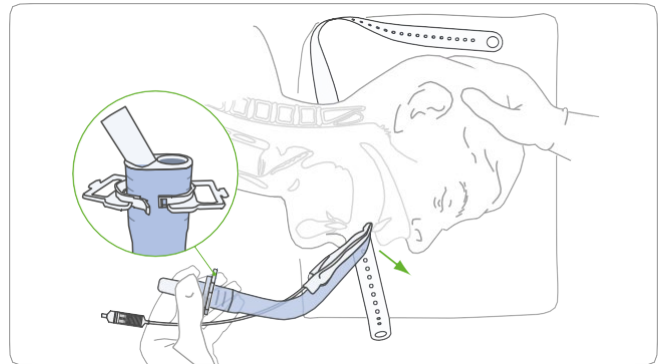

Figure 9. Press the tip of the mask against the hard palate
5. Place the holder over the bite block section such that the flat surface of the flange is facing towards the patient and position the holder midway along the bite block **WITHOUT LOCKING** it as shown in **Figure 9**. For ease of use, it is recommended that the holder is orientated such that the clip of the holder is facing toward the patient's nose when inserted.
7. Hold the device exactly as shown in **Figure 9**.